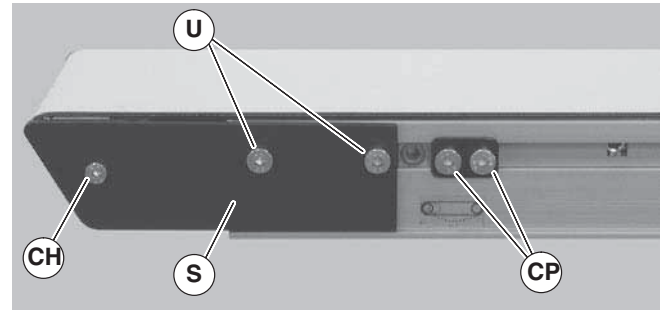

Figure 53
2. On one side of conveyor, use a 3 mm and 4 mm hex-key wrench to remove head plate fastening screws (Figure 53, item CH & U) and remove head plate (S).
4. After replacing bearings, re-install head plate (Figure 53, item S). Use a 3 mm hex-key wrench to tighten one (1) fastening screw (CH) to 30 in-lb (3.4 Nm). Leave two (2) fastening screws (U) loose for belt tensioning.